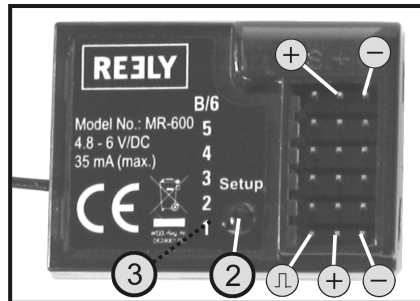

Figure 6
First, switch on the transmitter and then the receiver. If the binding function is working correctly, the red LED indicator (see figure 6, item 3) in the receiver right next to the setup button (see figure 6, item 2) lights up and the four servos react to the movements of the control levers. Verify correct receiver function and then switch the receiver off again.